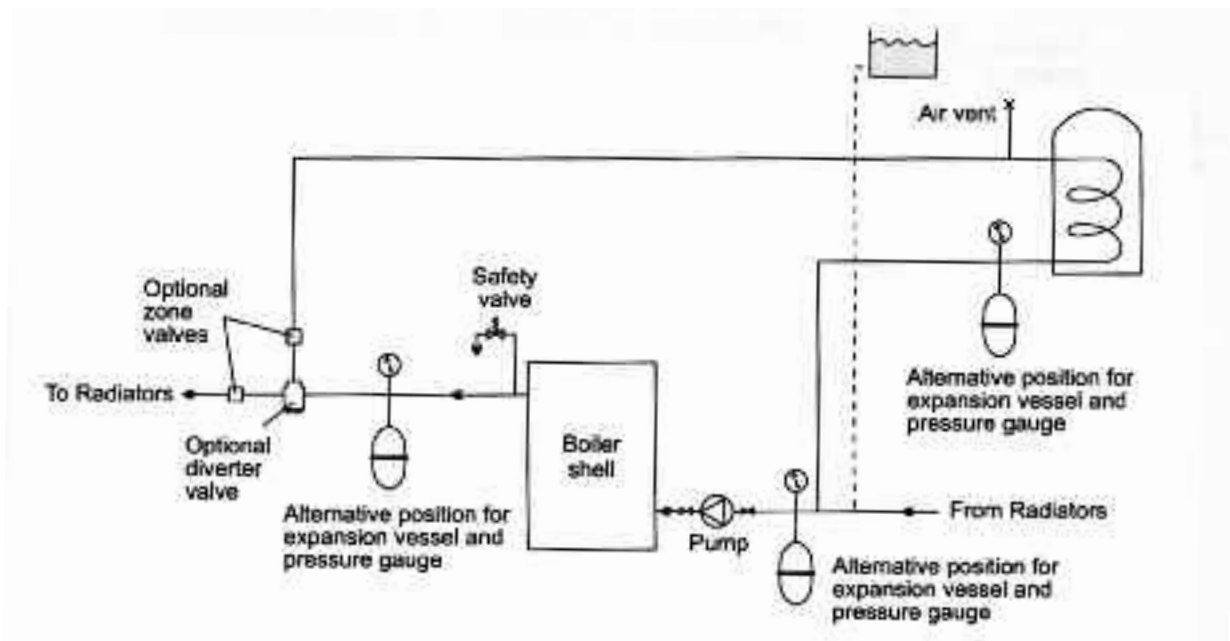

Fig. 15 - Sealed system
3.12.3 Sealed system - (See Fig. 15)
- 3 The expansion vessel can be fitted in either the return or flow pipework in any of the recommended positions as shown in Fig. 15. To reduce the operating temperature of the expansion vessel diaphragm, position it below the pipe to which it is connected. The expansion vessel may be positioned away from the system, providing the connecting pipe is not less than 13 mm diameter.